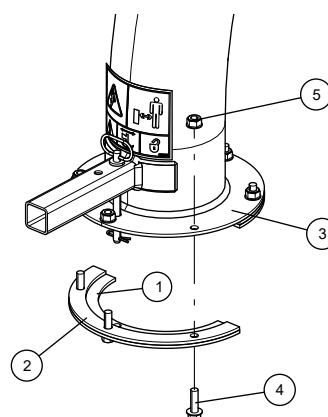
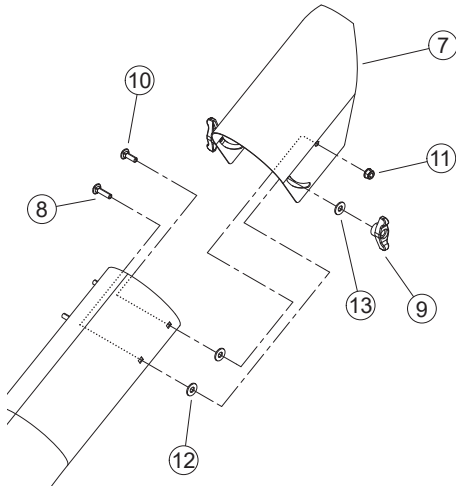

Figure 2.6, Attach Clamp Ring and Spacer
Figure 2.8, Attach Discharge Deflector
1. Attach one clamping ring (1) and one spacer ring (2) to discharge tube base (3) using three $\frac{3}{8}$ " $\times$ $1\frac{1}{4}$ " bolts (4) and nylock nuts (5). Tighten leaving $\frac{1}{16}$ " gap to assist in mounting to flange. See Figure 2.6.
2. Slide the tube onto the mounting flange on the chipper frame. The discharge clamp (1) should slide underneath the lip of the flange. Tighten the bolts to secure it.
3. Install the second half of the spacer (2) and clamp ring (1) on the discharge tube with $\frac{3}{8}$ " $\times$ $1\frac{1}{4}$ " bolts (4) and nylock nuts (5).
4. Attach lanyard with discharge pin (6) as shown in Figure 2.8. Loop on lanyard installed below nut